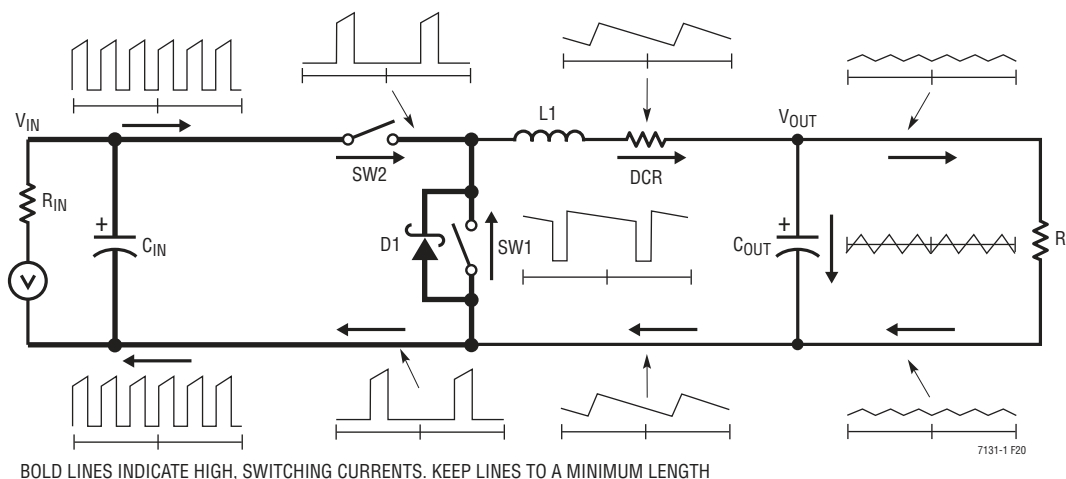

Figure 20. Branch Current Waveforms
When laying out the printed circuit board, the following checklist should be used to ensure proper operation of the IC. These items are also illustrated graphically in the layout diagram of Figure 20. Check the following in the PC layout:
- Figure 20 illustrates all branch currents in a switching regulator. It becomes very clear after studying the current waveforms why it is critical to keep the high switching current paths to a small physical size. High electric and magnetic fields will radiate from these